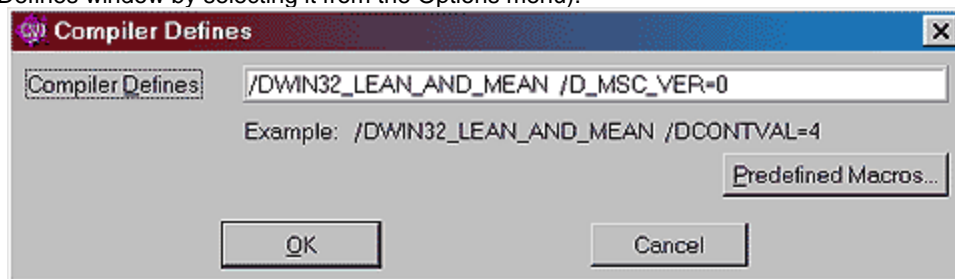

Figure 2: Compiler Defines Window
- DriverLINX is Visual C/C++ compatible, so it uses the C identifier "\_MSC\_VER" in its header file for preprocessor conditional compilation. This C identifier is embedded in Visual C/C++. However, it is not defined in CVI. You need to define it in CVI by adding "/D\_MSC\_VER=0" in the Compiler Defines window, as shown in Figure 2. (You can display the Compiler Defines window by selecting it from the Options menu).
- NOTE: The identifier "/DWIN32\_MEAN\_AND\_LEAN," shown in Figure 2, is the default CVI macro that reduces the time and memory taken when compiling Windows® include files.